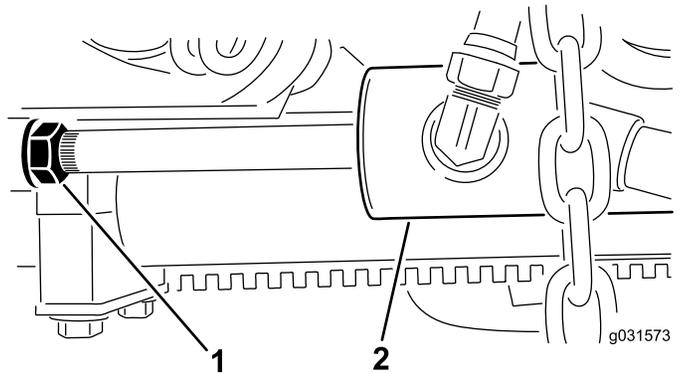

Figure 9
- B. Back off the jam nut on the cylinder (Figure 9).